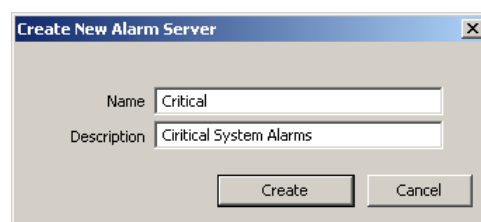

Figure 117: Create New Alarm Server dialog box.
3. In the **Create New Alarm Server** dialog box (as shown in Figure 117) enter Name and Description of the alarm server.
3. For an analog data point the dialog as shown in Figure 117 appears. Select the **Alarm Server**. Optionally, enter an **Alarm Description**. If left empty, the description of the data point is used. Enter a **Time Delay**, after which the condition is evaluated. Select